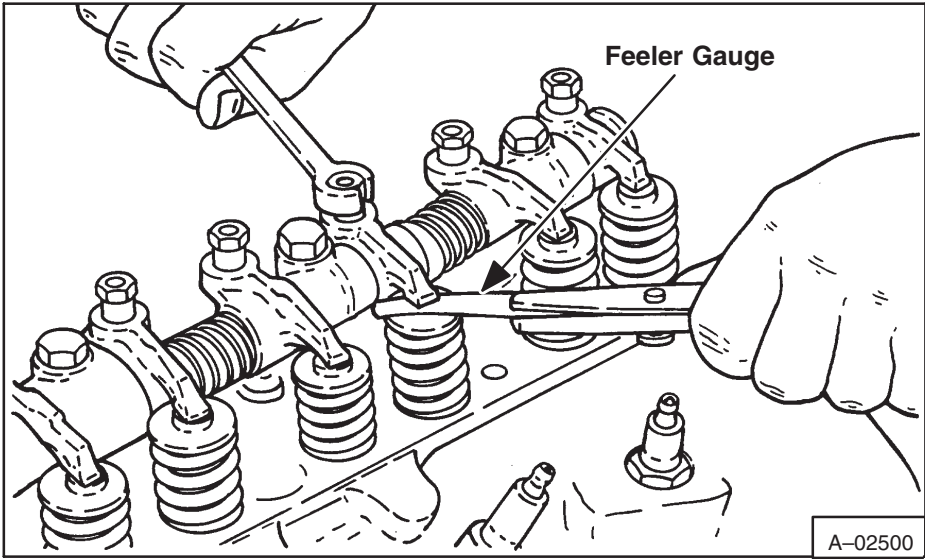

Fig. 7B-1 Adjusting Rocker Arms
7B-2.2 Valve Clearance (Fig. 7B-1)
8. Make a comparison of the highest and the lowest compression readings. If the lowest is at least 75% of the highest compression pressures are normal (Fig. 7B-2).